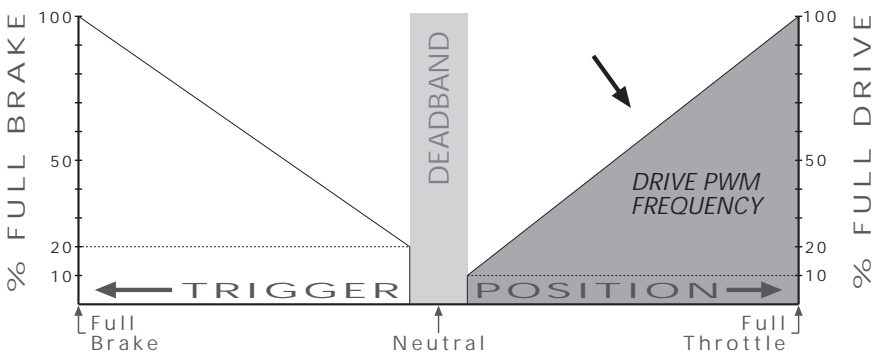

Figure 3: Graphical location of area affected by Drive PWM Frequency.
–Drive PWM Frequency controls acceleration characteristics of your vehicle with respect to trigger movement in the Full Throttle direction (Figure 3). By changing the value of Drive PWM Frequency you change the manner in which the vehicle responds to transmitter trigger input.